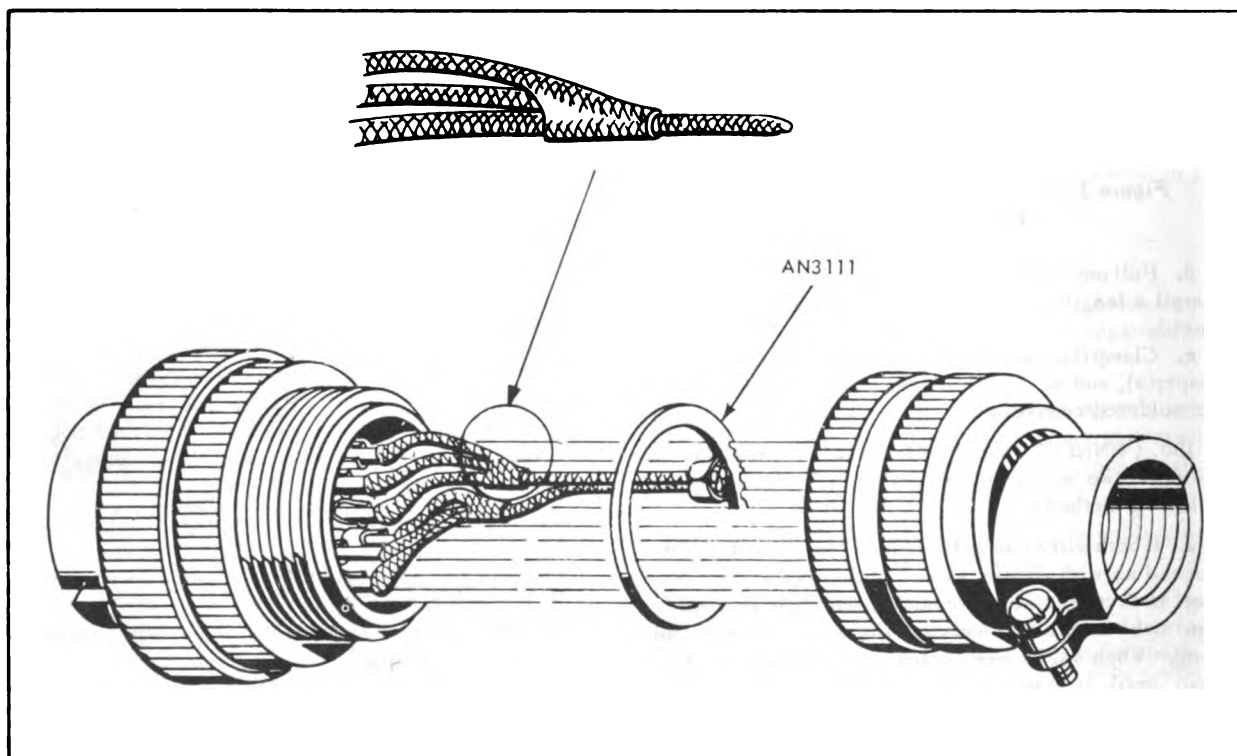

Figure 3-79. Installing AN3111 Bonding Ring
c. Make a hole in one shield and expand it to hold up to three other shields as shown in figure 3-79. Tighten the expanded shield around the others and sweat solder together. Repeat as necessary for number of shields to be grounded.